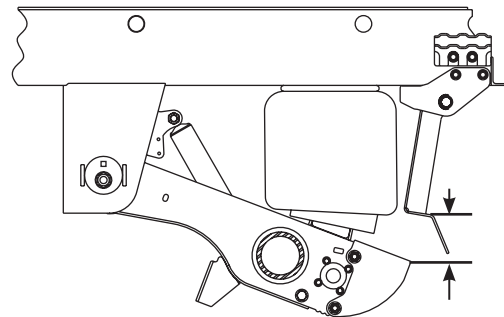

Figure 4: Ride height set too high
Any increase above the specified maximum ride height can reduce the effectiveness of SURELOK to limit trailer drop and/or walk. See Figure 4. Conversely, any ride
- A. If ride height is set **above specified maximum** value (Figure 4), The trailer has the potential to exhibit excessive "walk" and/or drop before the SURELOK support arms can contact the beam and maintain trailer height.